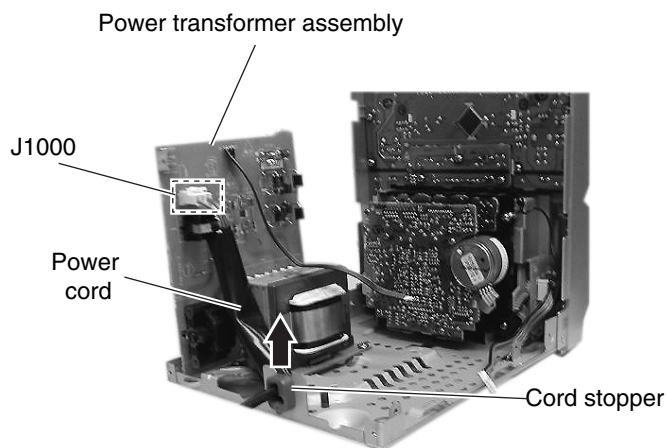

Fig. 17
■ Removing the power cable (See Fig. 17)